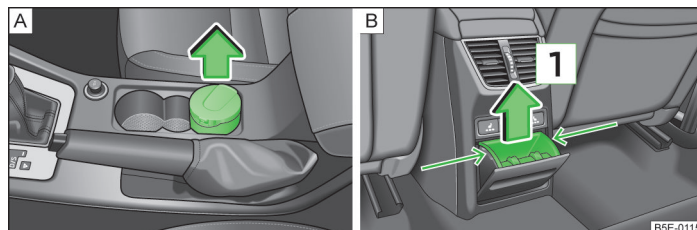

Fig. 65 Ashtrays: front/rear
- Pull out the ashtray » Fig. 65 - [A] in the direction of the arrow.
- Grasp the insert in the area marked with the arrows and remove it in the direction of the arrow **1** » Fig. 65 - [B].